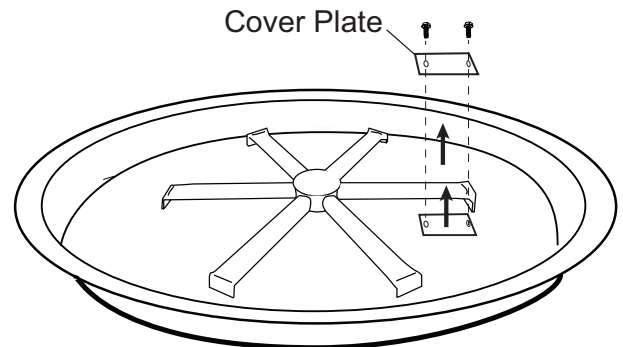

Fig. 9 Removing cover plate from pan.
Step 1: Prepare the fire pit pan or disc by first removing the two screws from the 1" x 2" metal cover plate exposing the rectangular hole then align the burner leg as shown in Fig. 9. The inside edge of the burner leg should be approximately 3/4-inch away from the inside edge of rectangular hole.